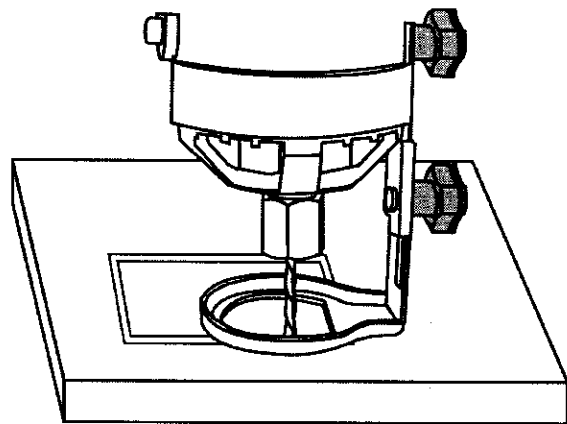

Fig. 7
7. When the motor is up to full speed, slowly tip the tool to an upright position, letting the bit cut into the workpiece (see Fig. 7). Once the tool has reached the upright position and the bit has cut through the workpiece, slowly move the tool in a **clockwise** direction using slow steady pressure to make the cut. NOTE: Except for cutting around outlet boxes in drywall, always cut in a **clockwise** direction.